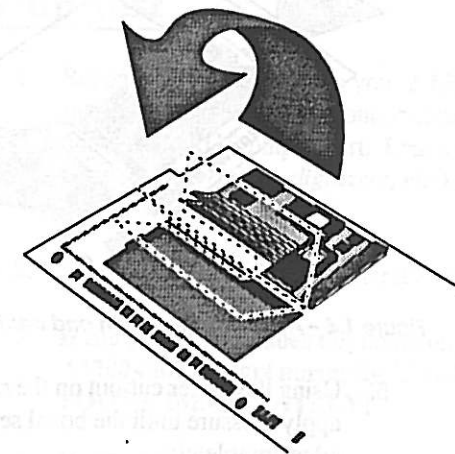
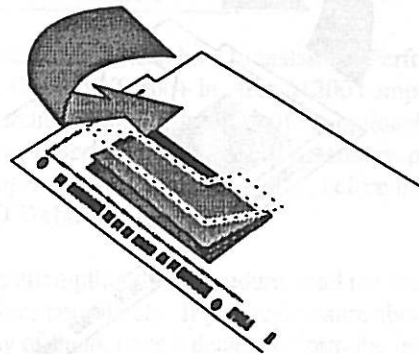

Figure 1.2 – Position and flip the A1230 Turbo+.
Figure 1.3 - Insert the A1230 Turbo+ board.
3. Flip the A1230 Turbo+ over so the component side of the board is facing down (*Figure 1.2*), and insert it into the expansion bay as shown in *Figure 1.3*.